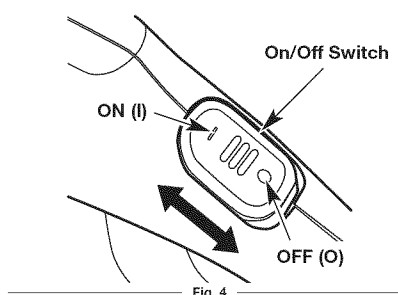

Fig. 4
- Slide the switch forward to the **ON (I)** position (Fig. 4).
- Slide the switch back to the **OFF (O)** position (Fig. 4).